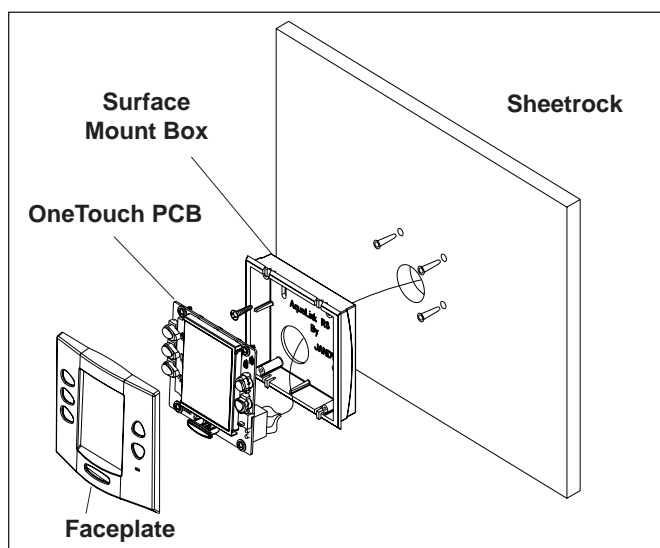

Figure 24. OneTouch Surface Mount Installation
3. Run the 4-conductor cable from the Power Center to the location of the Control Panel (see Figure 24).